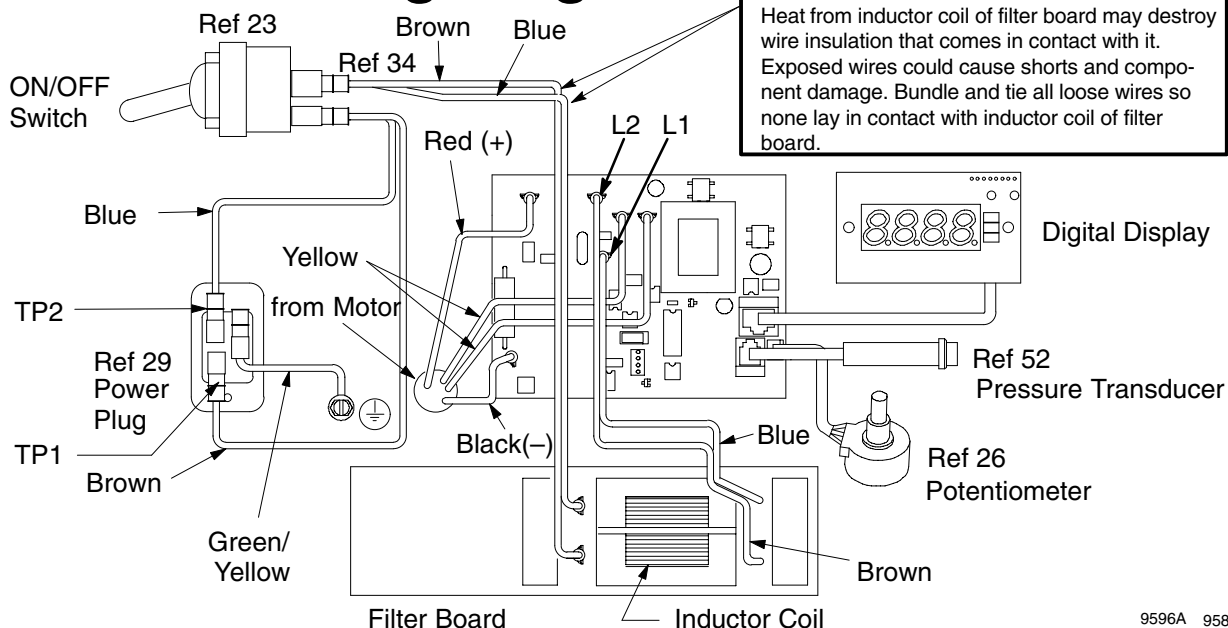

Fig. 8
2. Fig. 8. Remove four screws (18) and pressure control cover (39).
3. Remove display connector (B) from plug (C)
4. Disconnect four wires (A) from ON/OFF switch (23).
5. Remove toggle boot (25) and locking ring (24). Remove ON/OFF switch (23).
- Connect to motor control board (35):
- Lead (E) to transducer.
- Lead (D) to potentiometer.
- Filter board (X) (not 120 Vac sprayers).
- Lead (B) to display (not 120 Vac sprayers).
- Bundle and tie all loose wires so none lay in contact with inductor coil on filter board (not 120 Vac sprayers). See **Wiring Diagram CAUTION**, Fig. 8 or 9.
- Install cover (39) with four screws (18).